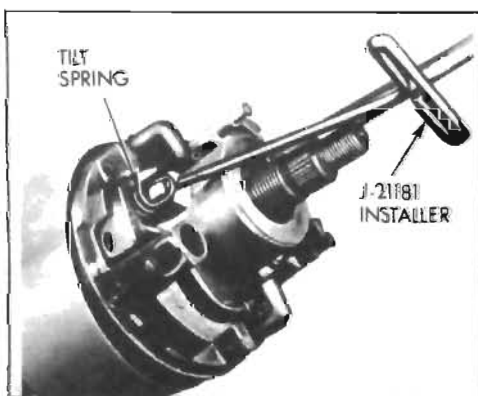

Figure 8-92—Installing Tilt Springs
9. Connect the upper ends of the tube tilt springs using Installer J-21181 (see Figure 8-92) to lobes on actuator.